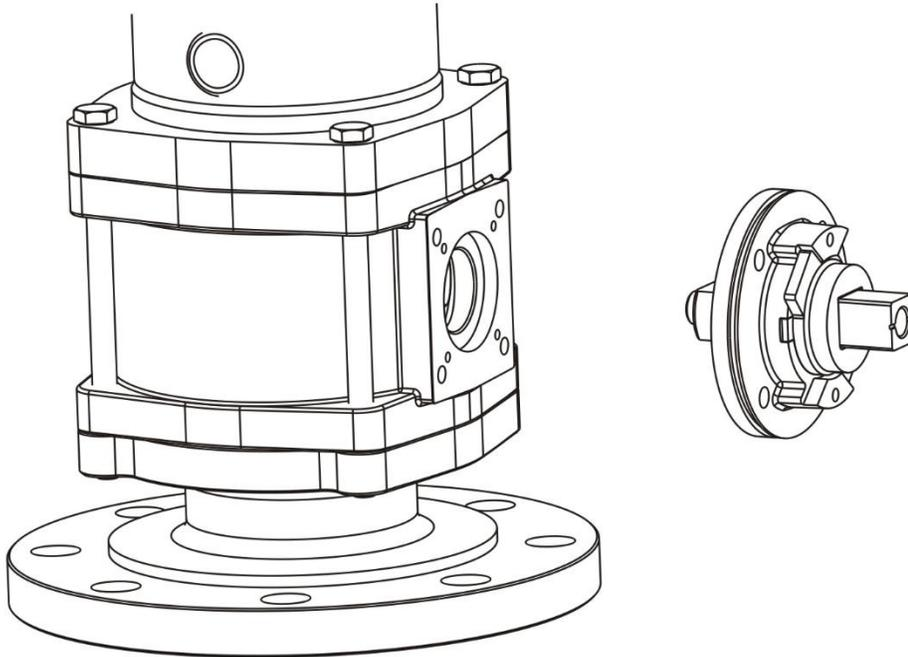

Figure 13
- Remove the remaining actuator assembly from the integral valve body (see Figure 13)
- Install the actuator adapter sub assembly to the valve. Ensure the valve ball is in the closed position (see Figure 13)
- Install the socket head cap screws that attach the actuator assembly to the integral valve body use Loctite #243 thread lock or equivalent. (See Figure 13)